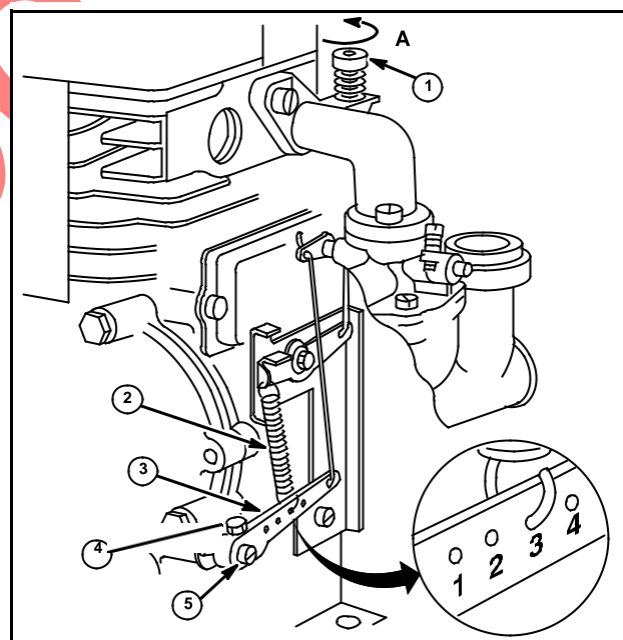

Fig. 17
3. Turn knob (1) to increase (A) or decrease RPM to desired speed, Fig. 17.